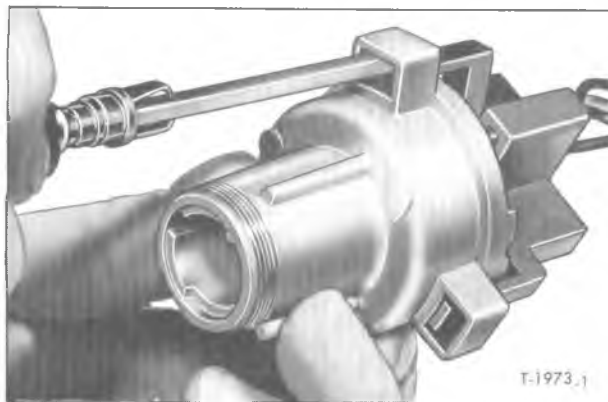

Figure 1—Disengaging Ignition Switch Connector
The ignition switch and harness-to-switch connector features a three tang lock to secure a firm connection (fig. 1). The switch lock cylinder and cylinder housing can be removed as follows:
4. Pull ignition switch out from under dash or transmission control island and separate wiring connectors by inserting thin blade of small screwdriver under each tang of wiring connector as shown in figure 1. Pull connector from switch.